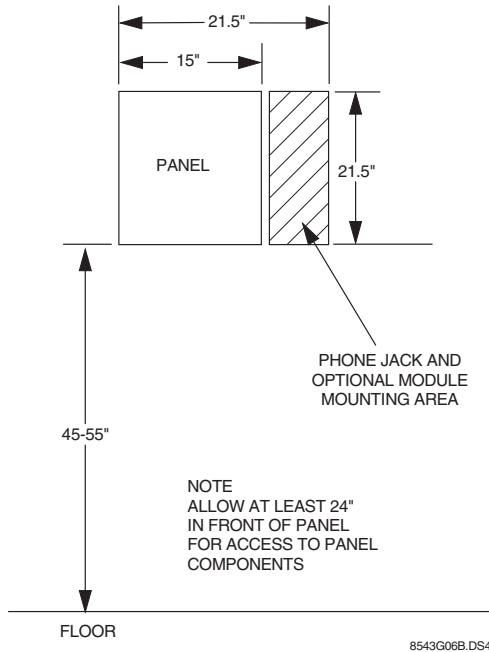

Figure 2. Determining Panel Location
- Mount the panel at a comfortable working height (about 45 to 55 inches from the floor to the bottom of the panel, as shown in Figure 2).